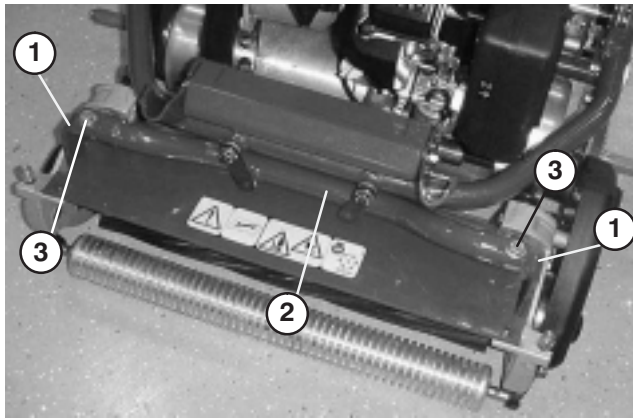

Figure 12
4. Remove (2) capscrews securing cutting unit pivot arms to traction unit frame tube (Fig. 12).
5. Rotate pivot arms forward (Fig. 12) and rest traction unit on restrained kickstand.
6. Pull cutting unit forward about 2 in. (51 mm) and then to the right to disengage the transmission coupling (Fig. 12).